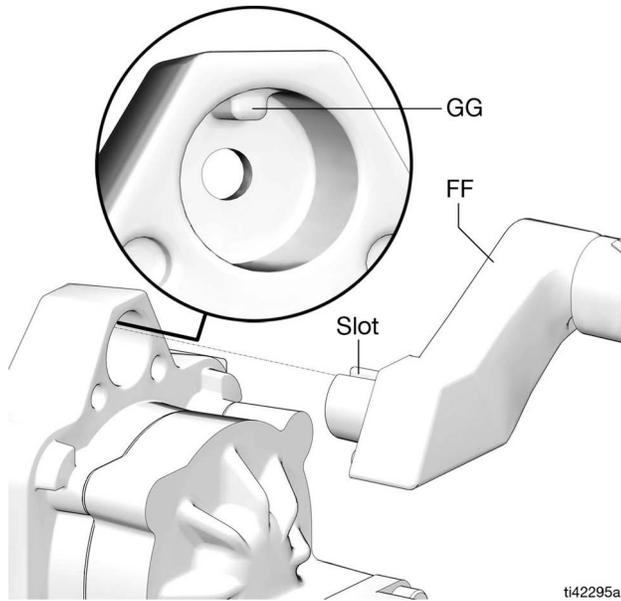

FIG. 12
- Align the slot in the handle with the key in the hole (GG) on the back of the pump (7), then place the handle into the hole and key (GG) (FIG. 12).